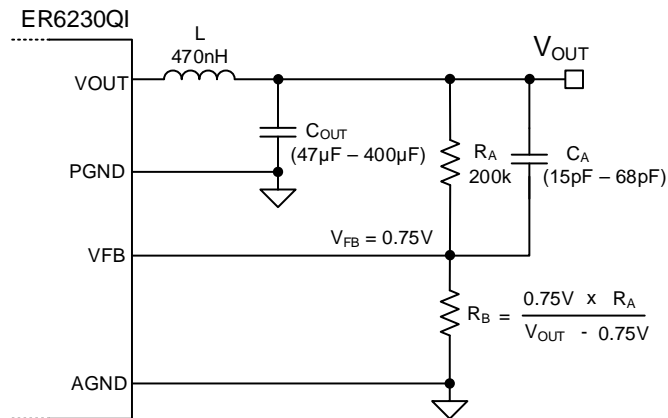

Figure 2: VOUT Resistor Divider & Compensation Capacitor
5) Output Voltage Settings (J1) - The output voltage may be adjusted quickly by placing a jumper one of the selections on J1. The voltages are pre-set by the resistors R33, R25, R18, R15, R12, R10 which corresponds to 3.3V, 2.5V, 1.8V, 1.5V, 1.2V and 1.0V respectively. The compensation CA may be adjusted according to Table 1 for best results. The output voltage may also be adjusted to any voltage as indicated by the equation for RB shown in Figure 2.